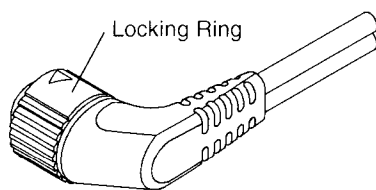

Figure 2-8 Therapy Cable Orientation
- 1 Orient the therapy cable so that the arrow is on top with the cable angled to the right (see Figure 2-8).